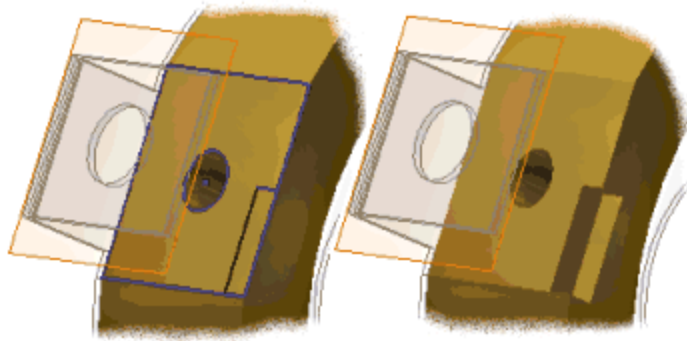

Figure 19: Sketch and extruded cut on ring.
6. Return to the assembly and then in-place edit the ring. Sketch two lines on the face under the sheet metal tab just created to define the rectangle shown in the left-side image in Figure 19. Extrude a cut similar to the one shown in the right-side image in Figure 19.